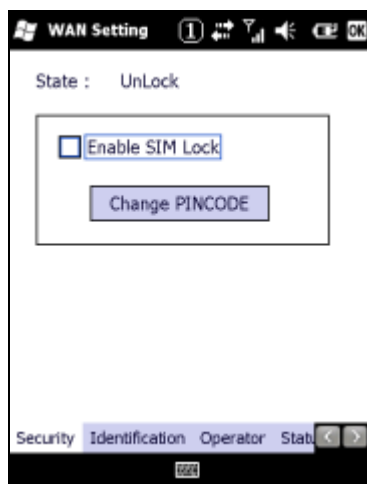

Figure 3-90
2. If the current SIM lock status shows “UnLock” in **State** field (see Figure 3.90), it is not necessary to reset the PIN lock because the PIN lock function is not used.